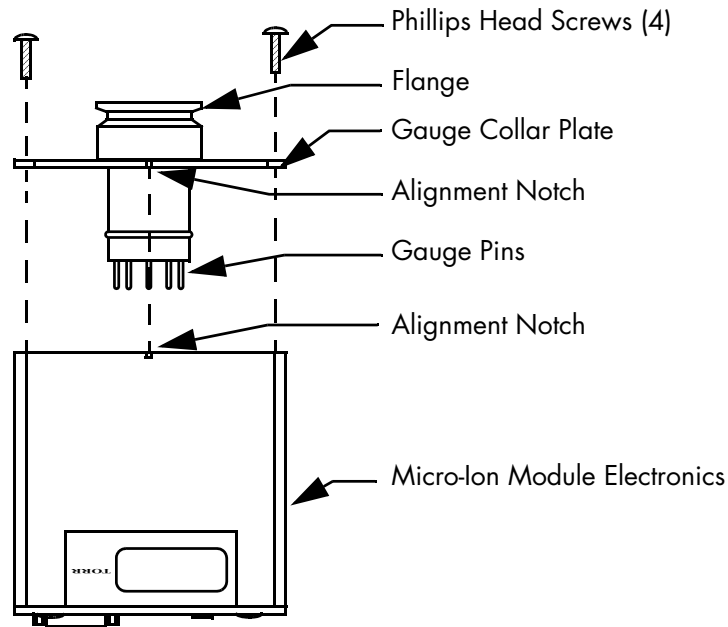

Figure 7-4: 354 Micro-Ion Gauge Removal.
4. Remove the four Phillips head screws from the gauge collar plate as shown in Figure 7-4.
5. While holding the flange, *gently* pull the Micro-Ion Vacuum Gauge Module away from the gauge collar plate as shown in Figure 7-4. The gauge tube and plate will disconnect from the module.